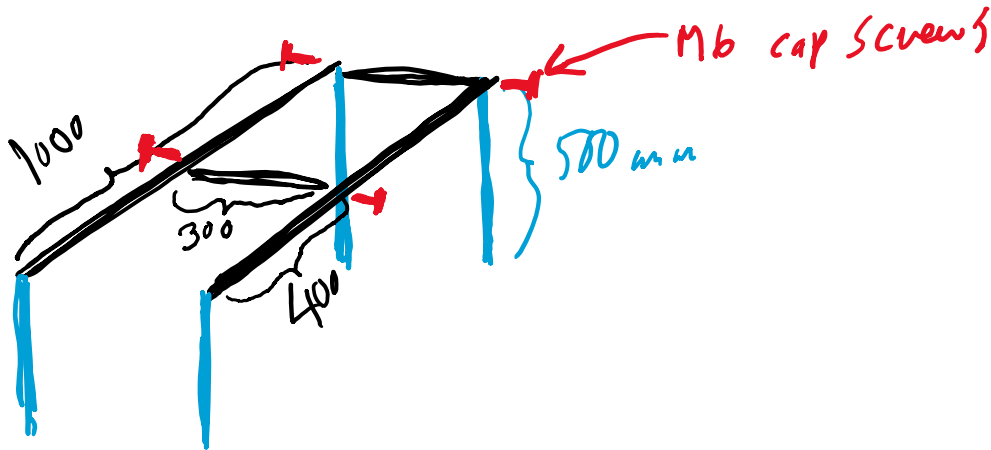

Figure 3. CAD of frame
1) Build a support frame for the floor plate using 2x 300 mm, 2x 1000 mm and 4x 500 mm long 20 mm square profile aluminum rail according to Figure 3 and lay the 3mm acrylic sheet piece floor.svg on top (part S). A minimum height of 500 mm from the floor is recommended as the doors need to operate some distance below the floor.